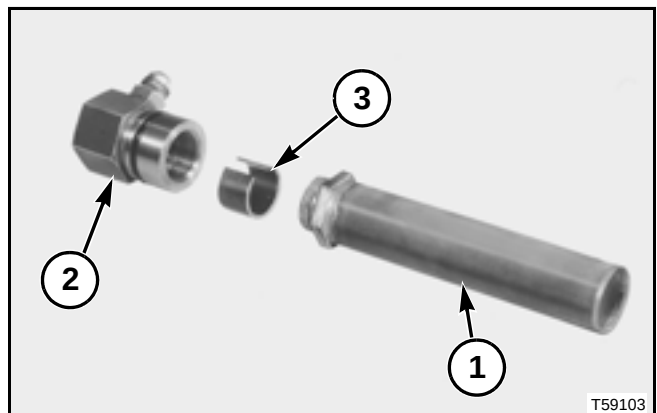

FIG. 85
FIG. 85: Remove the screen (1) from the drain plug (2) and remove the magnet (3) from inside the drain plug. Thoroughly clean the screen, magnet, and inside of the drain plug with a suitable solvent. Dry with compressed air.